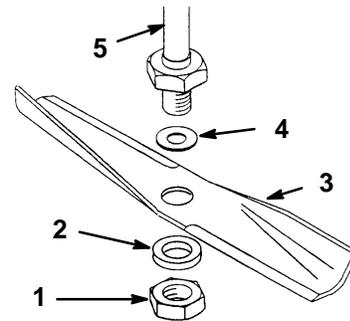

Figure 23
1. Install the washer, blade, flat washer, and the blade nut (Fig. 23).